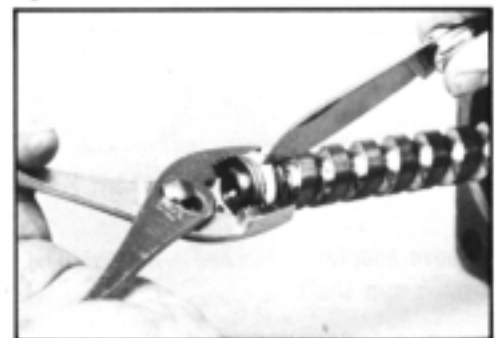

Figure 68
23. Hold the seal cup (26) and seal (25) in place with pliers and cut, remove, and discard the seal cup and seal from end of worm shaft (23). SEE FIGURE 68.